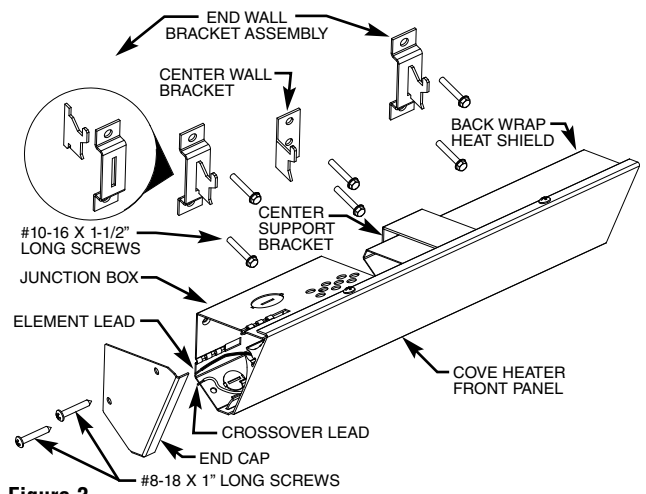

Figure 3
1. Select correct mounting distance from the ceiling material per Figure 1. Using Table 1, determine the center to center distance of the end wall brackets for the particular model (wattage) to be mounted. Divide this value by 2 to determine the approximate location to mount the center wall bracket. Mark these locations on the chosen wall. Locate a stud nearest the center wall bracket mark. Use this stud for the bracket location. (Disregard original mark mentioned above) Assemble end wall brackets as shown in Figure 3.
- Attach end caps (found in parts bag) as shown in Figure 3.